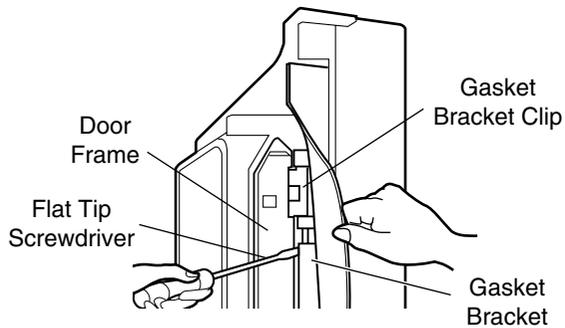

Figure 2
▶ Left Door -FIG. 2
1. Open door. Loosen top hinge cover screw (1).